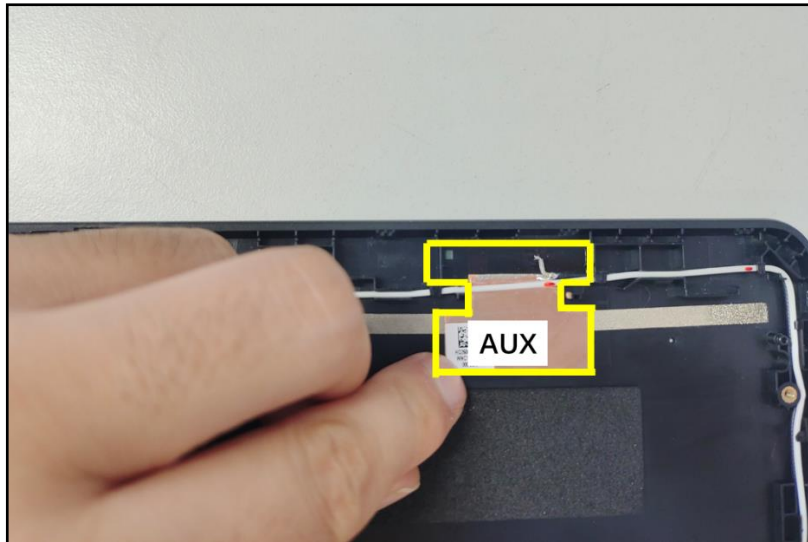

Figure 3-65. Replacing the AUX Antenna
1. Place the AUX antenna to the left side of the LCD cover. Make sure the antenna PCB circuit area is properly seated and placed onto its compartment highlighted by a green rectangle as shown in Figure 3-65.
2. Adhere the grounding foil of the AUX antenna as marked in yellow (Figure 3-65).